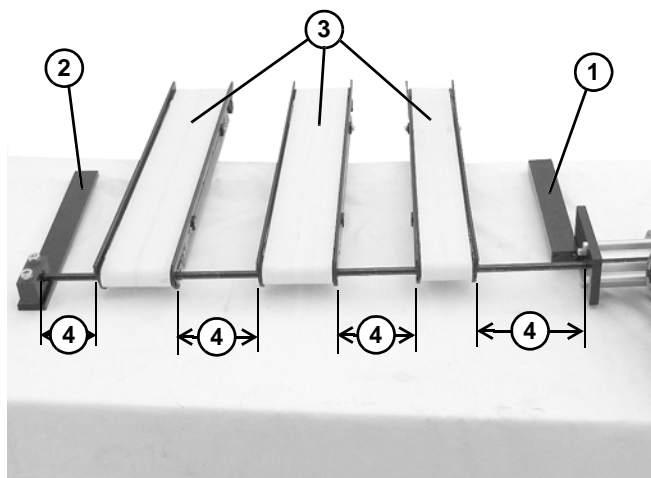

Figure 11
- Align conveyors between gearmotor support assembly (Figure 11, item 1) and bearing support assembly (Figure 11, item 2).
Do not secure the conveyors (Figure 11, item 3) to mounting surface.
- Cut shaft cover (Figure 2, item 9) into pieces to match each distance (Figure 11, item 4) minus 1/16" (1.5 mm).